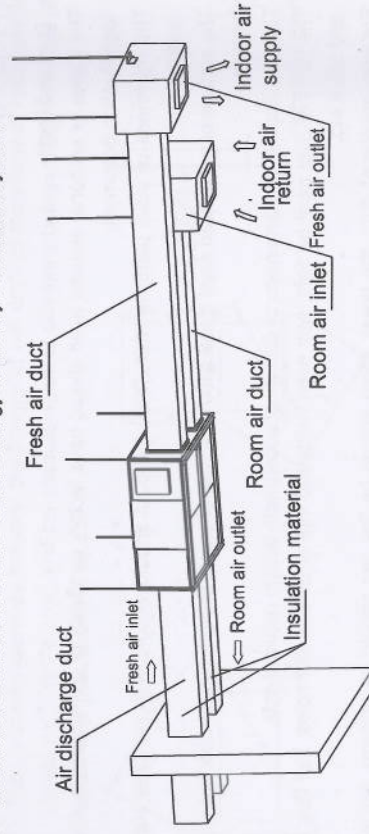

Fig.9 Installation Sketch of FHBQ-D
- (1) In off status of the unit, timer on can be set and in on status, timer off, energy-saving on and energy -saving off and air clear can be set.
- (2) Press Timer button into timer setting status. TIMER,Hr and letters corresponding setting will blink.
- (3) (E.g.during timer off setting, Timer,Hr and OFF will flash).In this case, the user can press ▲ or ▼ to increase or decrease setting time. Repress Timer button to make the timer valid and the timing will be Fig.9 calculated after that. When the unit is under timer state, press the Timer button to cancel it. The time interval is 0.5 hr.
- (4) The setting range of Timer on/off is 0.5-24hr.
- (5) The setting range of Energy Saving On is 2-5hr and the default is 2hr.
- (6) The setting range of Energy Saving Off is 1-4hr and the default is 1hr. (Note: press FAN and ▼ at the same time for 5s only after energy saving timer setting, the energy saving function can operate.
- (7) The setting range of Timer Clear is 1250hr, 2500hr and 00000. The default is 1250hr.